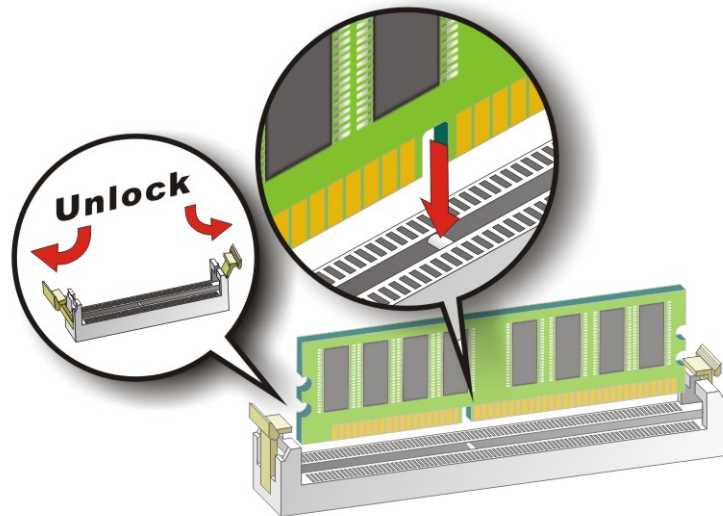

Figure 5-4: Installing a DIMM
To install a DIMM into a DIMM socket, please follow the steps below and refer to **Figure 5-4**.
- Step 1: Open the DIMM socket handles.** The DIMM socket has two handles that secure the DIMM into the socket. Before the DIMM can be inserted into the socket, the handles must be opened. See **Figure 5-4**.
- Step 2: Align the DIMM with the socket.** The DIMM must be oriented in such a way that the notch in the middle of the DIMM must be aligned with the plastic bridge in the socket. See **Figure 5-4**.
- Step 3: Insert the DIMM.** Once properly aligned, the DIMM can be inserted into the socket. As the DIMM is inserted, the white handles on the side of the socket will close automatically and secure the DIMM to the socket. See **Figure 5-4**.